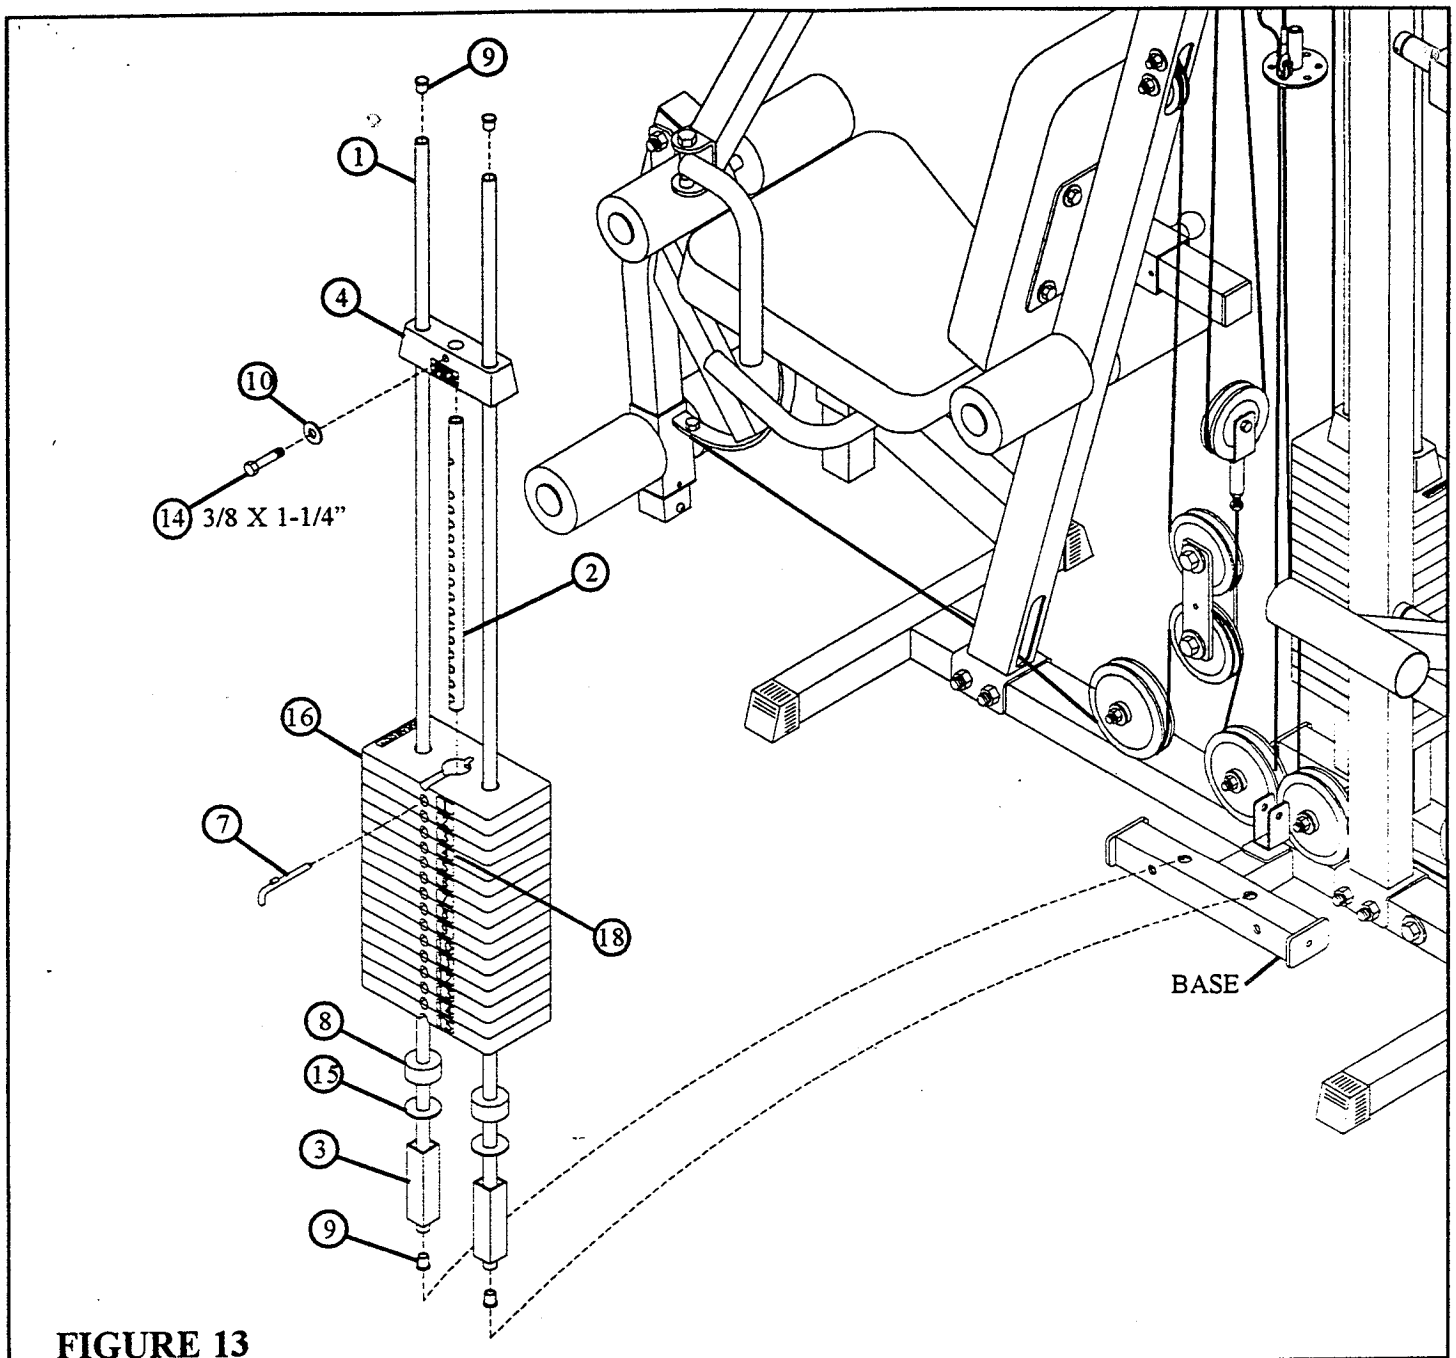

FIGURE 13
- Insert four CAP PLUGS (9) into the top and bottom ends of the GUIDE RODS (1) as shown in FIGURE 13.
- **SECURELY** assemble the WEIGHT STACK SHAFT (2) to the HEAD PLATE (4) using one 3/8 X 1-1/4" BOLT (14) and one 3/8" WASHER (10).
- Insert two GUIDE RODS (1) into the BASE as shown on FIGURE 13. (NOTE: Lubricate GUIDE RODS (1) with silicon or teflon spray available at most hardware stores.)
- Slide two 1-1/4 SQ. X 4-7/8" TUBES (3), two 3/4" WASHERS (15), and two WEIGHT STACK CUSHIONS (8) - **IN THAT ORDER** - down over the GUIDE RODS (1).
- Using **EXTREME CARE** slide all fifteen WEIGHT PLATES (16) down over the GUIDE RODS (1) on to the WEIGHT STACK CUSHIONS (8). Make sure that the keyholes of the WEIGHT PLATES (16) are all facing the right way.
- Slide the head plate assembly down over the GUIDE RODS (1) onto the weight stack.
- Attach the WEIGHT STACK LABELS (18) to the weight stack. Also insert the WEIGHT STACK PIN (7) into the first WEIGHT PLATE (16) of the weight stack.